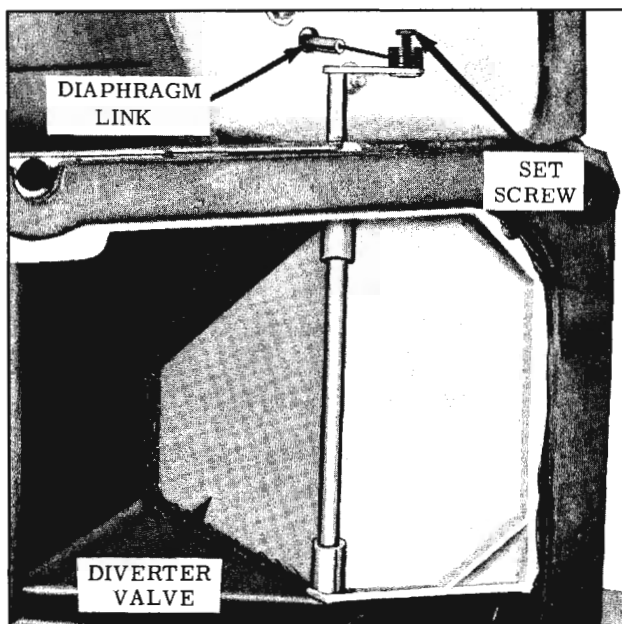

Fig. 15-39 Diverter Valve Adjustment
**Diverter Valve (Fig. 15-39)**